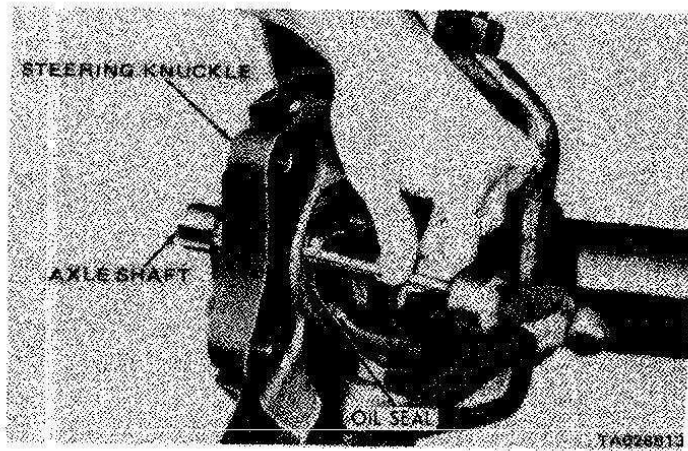

Figure 2-61.3. Removing Inner Oil Seal from Steering Knuckle.
(11) Remove the inner oil seal from the rear of the steering knuckle using a punch and hammer (figure 2-61.3).
(12) Remove the axle shaft (assembly) from the axle housing.